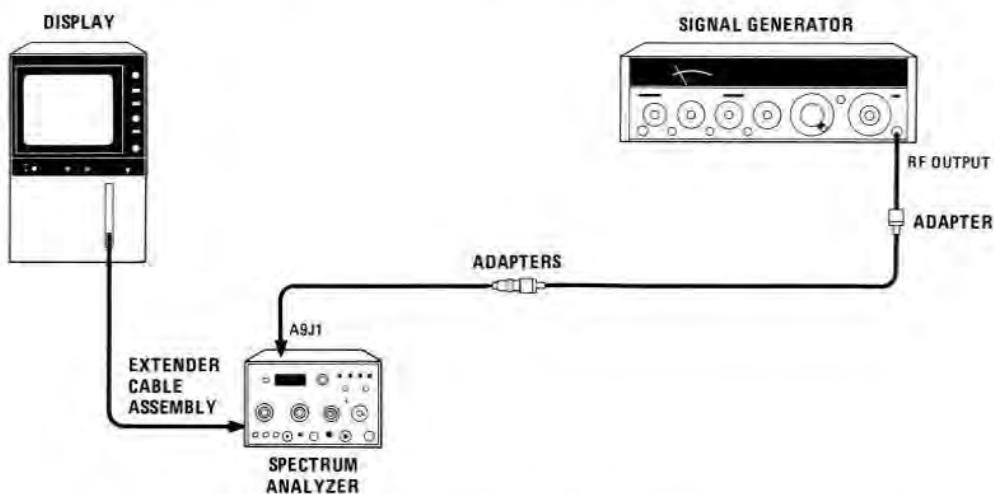

FIGURE 4-10. RESOLUTION BANDWIDTH SELECTIVITY TEST SETUP, 1 kHz TO 30 kHz
- Connect equipment as shown in Figure 4-10. Remove W7P1 from A10J2. Connect signal generator through adapters to W7P1.